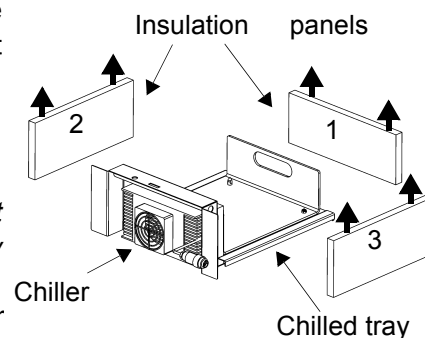

Figure 1.4 Chilled tray (optional)
Besides the standard tray, there is also an optional chilled tray available with insulation panels (figure 1.4), to ensure that the milk samples are kept cool and stay suitable for laboratory testing.
- *To optimise the effect of the chiller, and enable free insertion and withdrawal of the chilled tray, the insulation panels (see placement sequence below) must be placed as high as possible on each wall surface (see figure 1.4 and 1.5).*